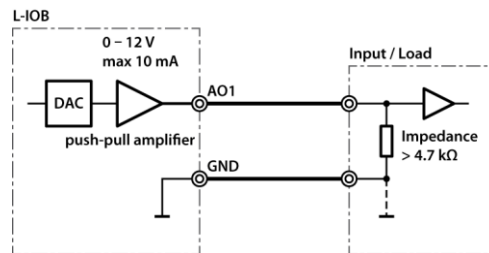

Figure 121: Analog outputs
Figure 121 shows the wiring of the analog outputs (AO). Observe that the analog outputs are labeled '0-10V OUT' but are in fact capable of delivering over 11V.